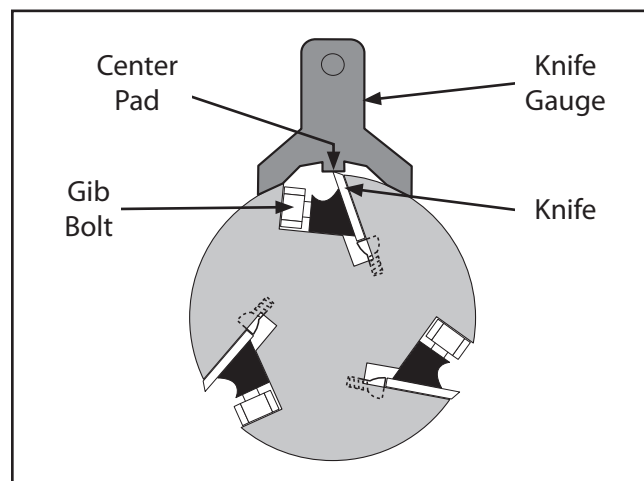

Figure 28. Knife-setting jig correctly positioned over knife.
5. Loosen cutterhead gib bolts until knife is completely loose, then position knife-setting jig over knife so that knife edge is directly under center pad, as shown in **Figure 28**.